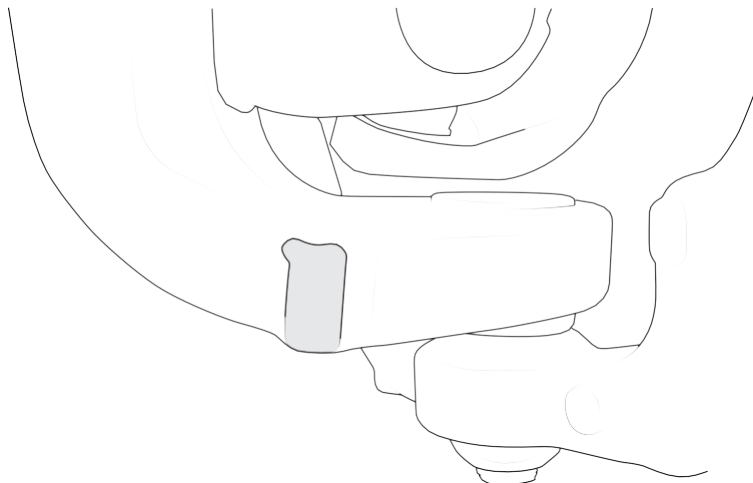

Figure 39
1. Grind the axle where the factory steering stop contacts the knuckle. Remove paint to a bright shiny metal for welding (fig. 39).